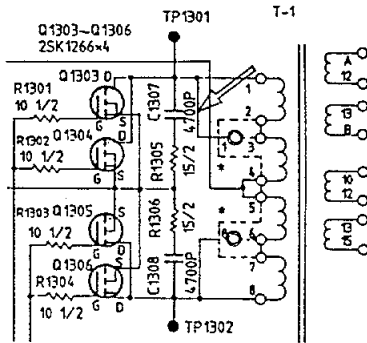
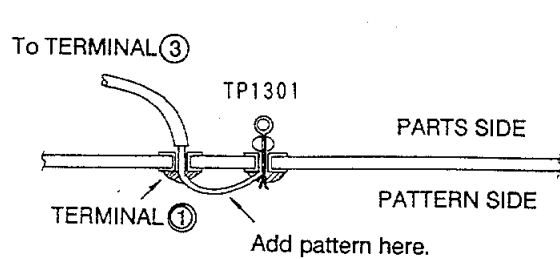

Fig. 2
Fig. 3
NOTE: For POWER SUPPLY Board version no. PTU-8764-11, the pattern between TP1301 and ① (see arrow in Fig. 2) is missing. If the input voltage is changed to 12 VDC, please add this pattern as shown in Fig. 3. This modification is not required for POWER SUPPLY board version no. 22, which will be produced from 3/91.